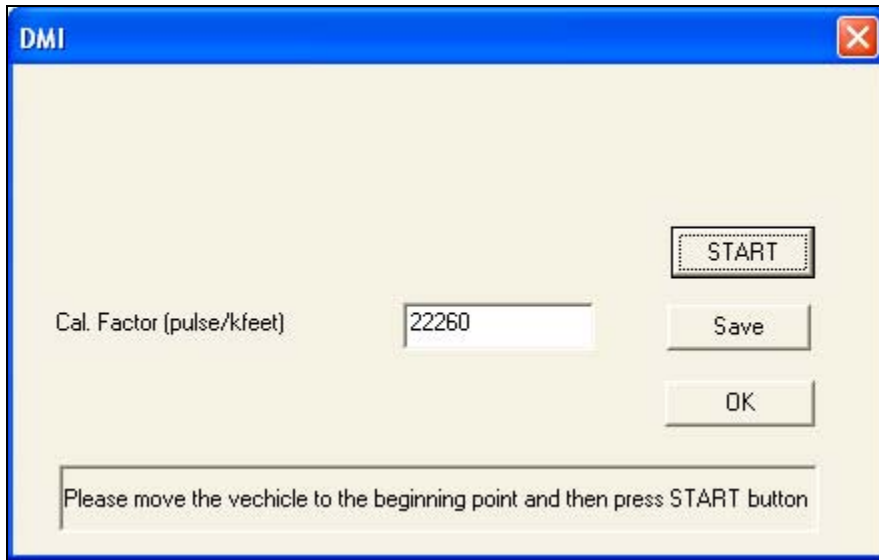

Figure 22. DMI Calibration Start Screen.
- **Calibration:** Press this button to activate the calibration routine. The calibration start screen shown in Figure 22 will appear. Perform the following steps to calibrate the DMI: